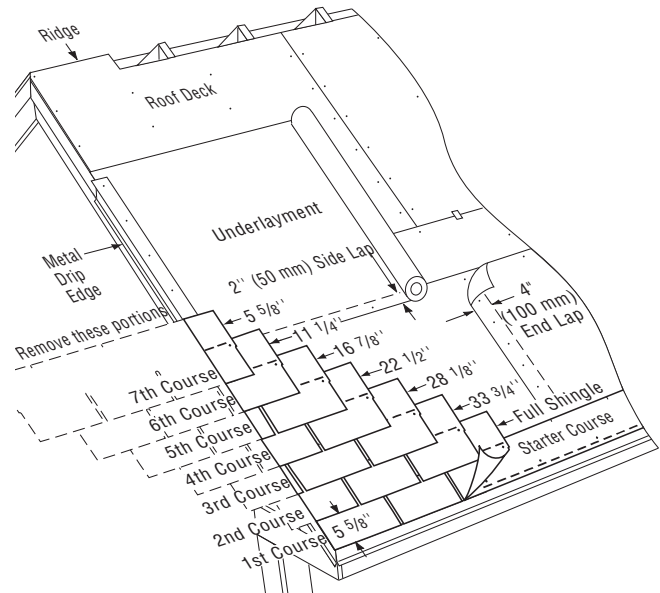

Figure 10-14: Applying the first 7 courses on a standard slope.
1ST COURSE: Apply a full shingle at the lower left corner of the roof. Make tabs lie flush with the edges of the starter course. In this way, sealant on the starter strip will adhere to the first-course tabs and help keep them from lifting in high winds (Figure 10-14).
1. Cut 5⁵/₈" off the left side of a shingle and install this 33³/₄" piece over and above the first-course shingle, in line with the left edge of the starter course (Figure 10-14).
2. Cut 11¹/₄" off the first shingle of the third course, 16⁷/₈" off the first shingle of the fourth course, 22¹/₂" off the first shingle on the fifth course, 28¹/₈" off the first shingle of the sixth course, and 33³/₄" off the first shingle of the seventh course. Apply each with its left edge in line with the previous course (Figure 10-14).